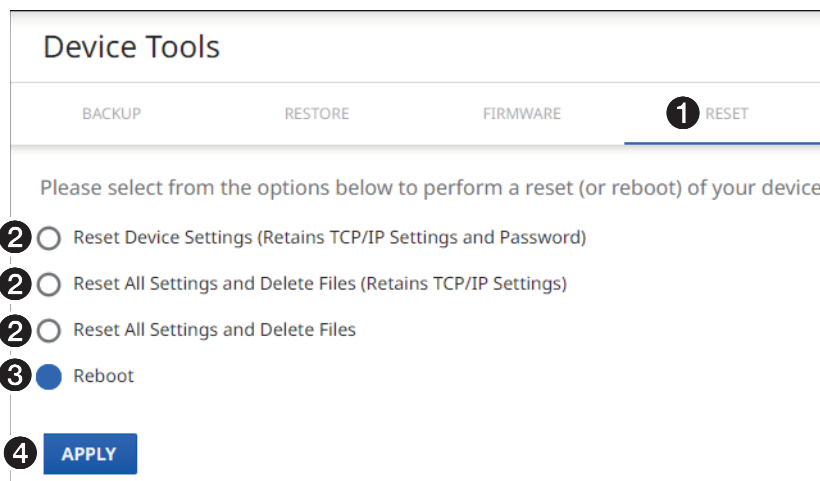

Figure 35. Tools — Reset Function
1. On the Device Tools page, click **Reset** (see figure 35, 1).
2. Select (click) a reset level (see figure 35, ② on page 37) or **Reboot** (③).